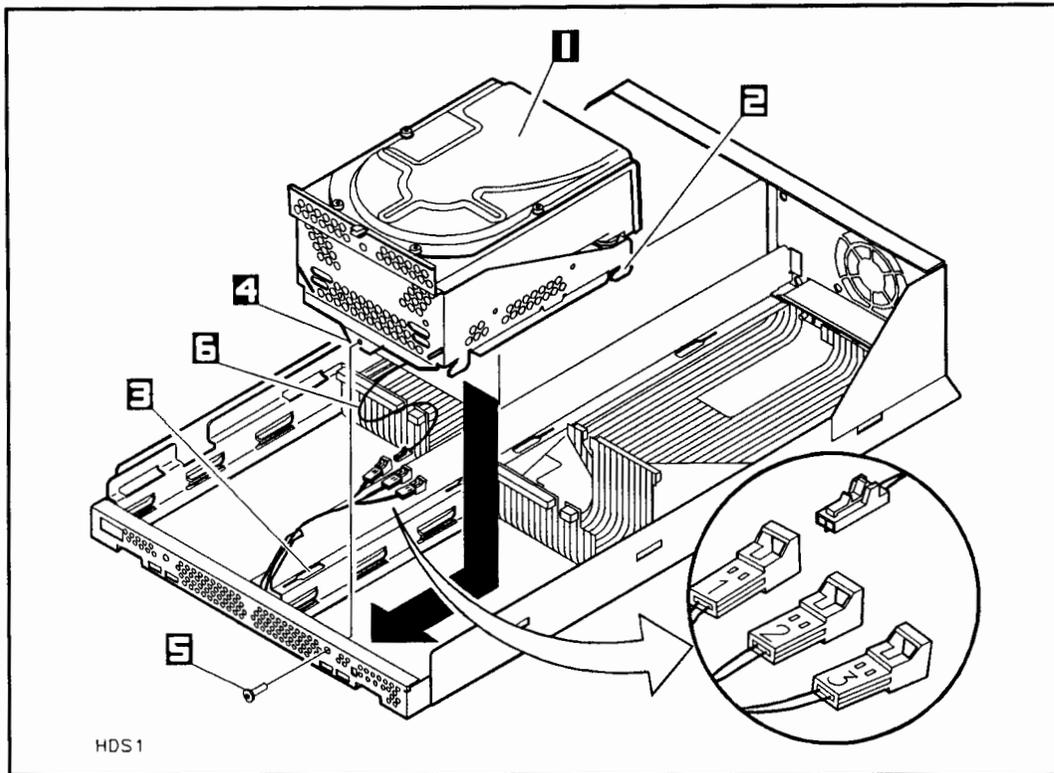

Figure 2-6. Installing the Hard Disk Drive into Slot 1
1. If you are installing a hard disk drive into slot 1 or slot 3, push down on the hard disk drive and slide it on the chassis rails toward the front of the mass storage system chassis until the mounting tabs lock into the mounting slots and the hard disk drive stops against the front of the chassis (see Figure 2-6 or Figure 2-8).
2. If you are removing a hard disk drive from slot 1 or slot 3, remove the T25 screw from the hole in the front of the mass storage system chassis (see Figure 2-6 or Figure 2-8).